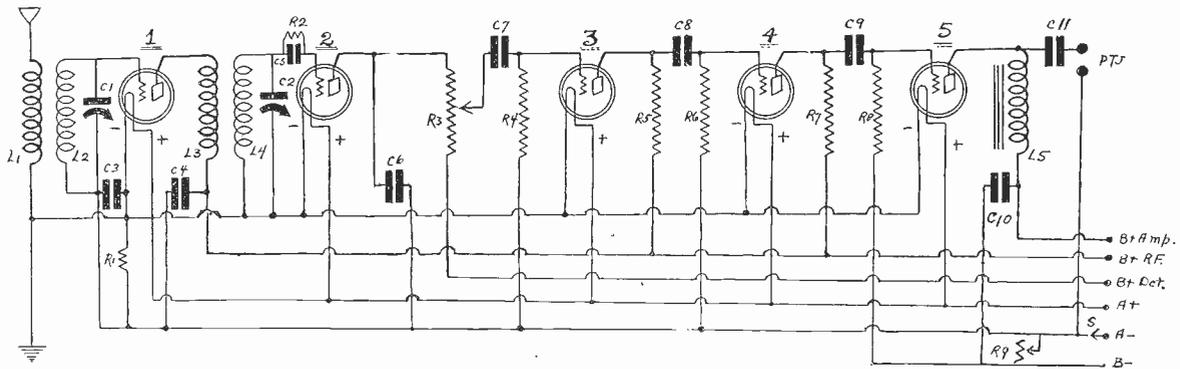

FIG. 1
It will be observed that the applied plate voltage is not the same for all the tubes when the filaments are connected in series, even when the plate returns are connected to the same point. Thus in Fig. 1 the last tube receives the full voltage of the eliminator, but the next tube forward receives 5 volts less, which is the voltage drop in the filament of the last tube. The detector receives ten volts less, or the amount of the drop in the two succeeding filaments. The two radio frequency tubes receive 15 and 20 volts less than the output voltage of the filter. These voltages for the first three tubes hold when the resistance r is zero. When this has a high value the drop in it should be subtracted from each case from the output of the filter. Suppose the drop in r is 50 volts and the eliminator output voltage is 180 volts. The effective voltage on the plate of the first tube would be 180 less 20 less 50, or 110 volts. The second tube would have 115 and the third tube 120 volts. The first audio frequency tube would have 175 volts and the last the full 180 volts. These differences should be taken into account when selecting the value of the resistance r and the grid bias values of the different tubes.
Let us look at Pete's installation. Nothing like a thorough examination of the patient so that a sensible diagnosis can be made. His receiver has C batteries totally eliminated. The voltage drop in a filament resistor is used for the one-volt bias on the radio frequency tube (1) and on the first and second audio tubes (3) and (4). The detector tube is a special detector—in the high μ class, therefore—and takes a zero grid bias, that is, has grid return made to minus filament (not minus A, which is a battery lead). The final tube is a 112, and the negative grid bias is obtained through the drop in a variable resistor connected from B minus to A minus. The diagram of Pete's set is shown in Fig. 1. Note the volume control, a 100,000-ohm Carter potentiometer in the detector plate lead.